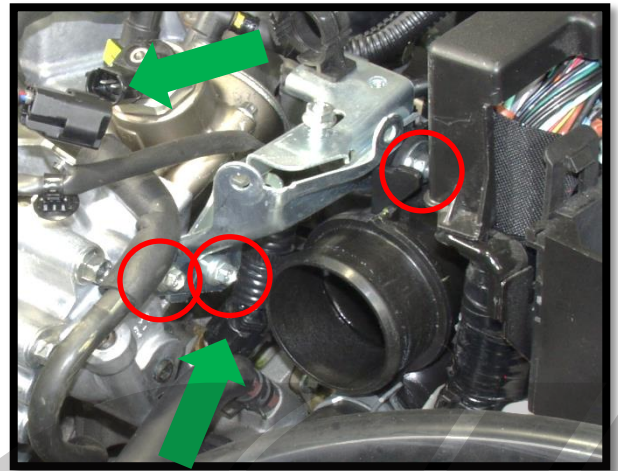

Figure 1i
m) Remove the turbo inlet pipe bracket by removing the three (3) 10mm fasteners with a socket wrench (red circles in Figure 1i).
n) Unplug the coolant temperature sensor and fuel pump electrical connectors (green arrows in Figure 1i).